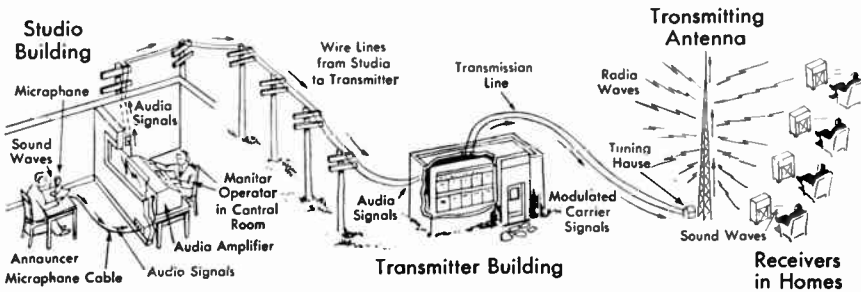

Fig. 3. Signal paths from microphone to receivers in typical a-m broadcasting system
**A-M Broadcasting System.** The major units of an a-m broadcasting system are shown in Fig. 3. When the announcer speaks before the microphone in the studio, he produces *sound waves* that act on the microphone.
The wire that comes out from a microphone is called the *microphone cable*. This cable provides a path for transferring the audio signal to the audio amplifier that is the next part of the a-m broadcasting system shown in Fig. 3.